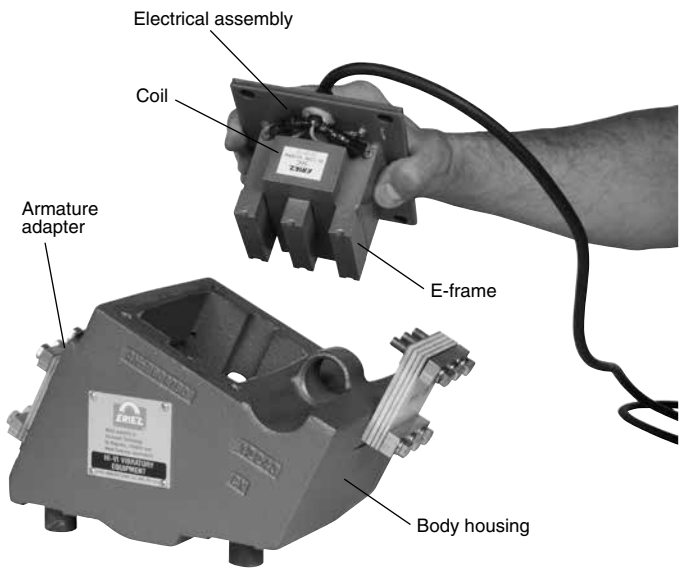

FIGURE 7
3. Remove the bolts securing the electrical assembly to the body housing and lift the assembly out of the body housing (see Figure 7).